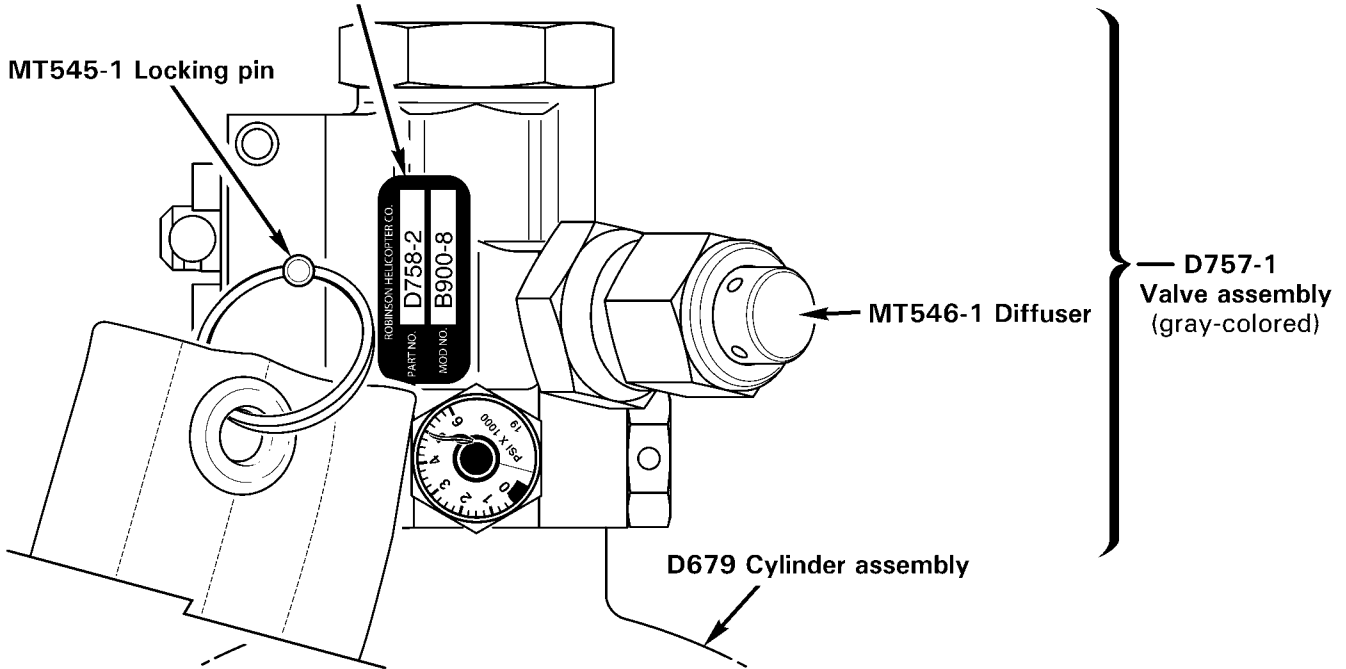

FIGURE 1
1. Refer to Figure 1. If D757-1 (gray) valve assembly is engraved with "D758-4," or if gray valve has a data plate indicating B900-8 modification, the requirements of this bulletin have been complied with and no further action is required.